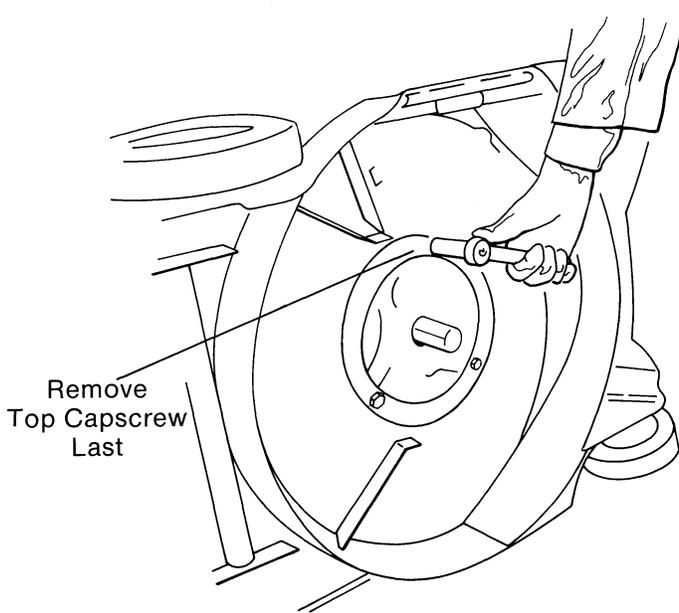

FIG. 16
- G. Remove three engine mounting nuts, washers and lockwashers. Start with the bottom two nuts first. Remove the top nut last (Fig. 16).